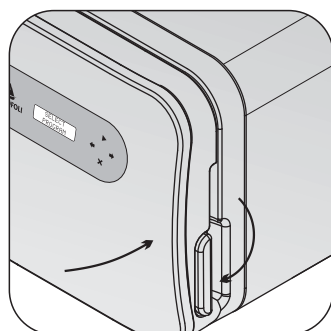

Fig.7
- e►Close the door of the autoclave pressing it against the chamber (pressure vessel) and move the handle all the way down (Figs. 7 and 8).